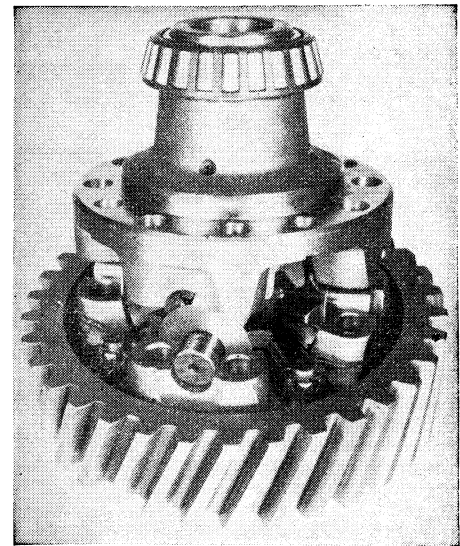

Fig. 66 Align mating marks of differential case halves before assembling
4. Align mating marks, Fig. 66, position component case half and draw assembly together with four long bolts equally spaced.
5. Align mating marks, Fig. 66, and position component case half.